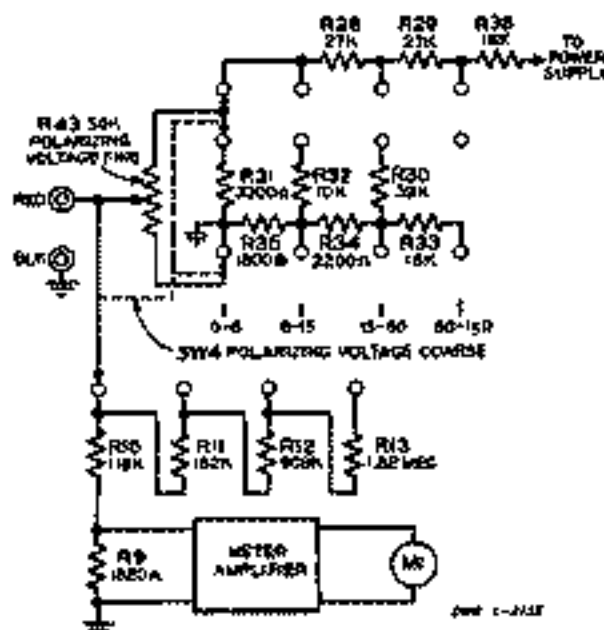

FIGURE 6
4.2 The basic circuit used to obtain the polarizing voltage for the Leakage Current test is shown in Figure 6. This voltage is continuously variable from 0-150 volts, and is controlled by the "COARSE" switch (4 steps) and the "FINE" control which gives full variation within each step.
4.2 The basic circuit for the measurement of leakage current of electrolytic capacitors is shown in Figure 6. The meter amplifier has seven different values of input resistance in order for the meter to read leakage currents ranging from 0.6 to 600 microamperes (full scale values - in seven ranges). The first scale division is $0.02 \mu A$. Thus $0.1 \mu A$ can be read accurately. The input circuit has a constant voltage drop, on all ranges, of 0.9 volts. This is particularly important when testing very low voltage capacitors in the 1 or 2 volt range.